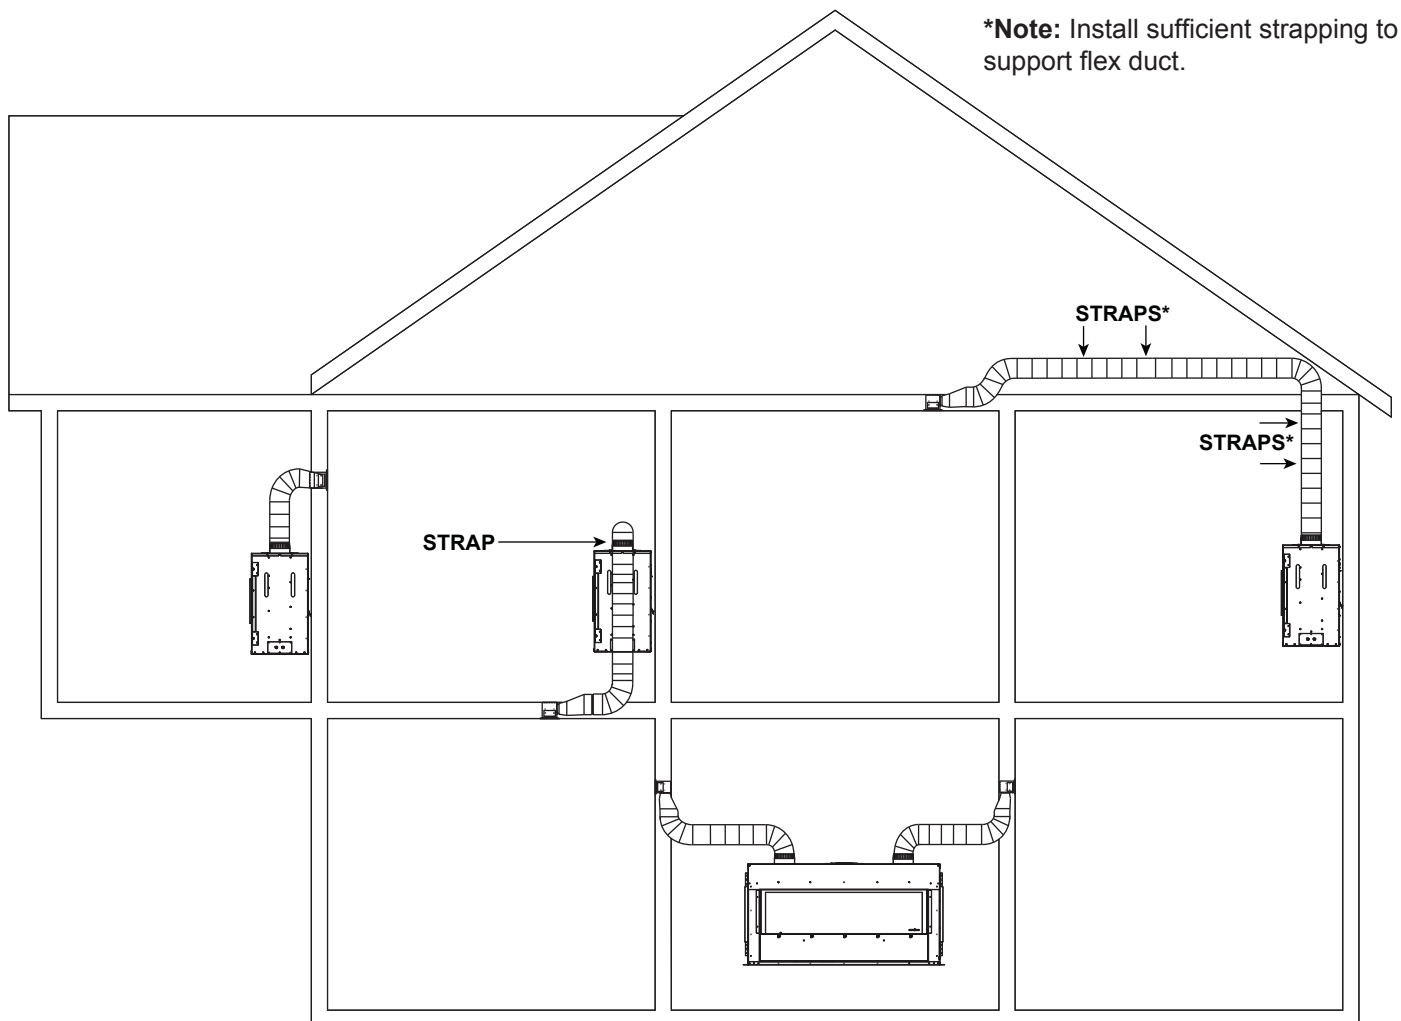

Figure 6.7 HEAT-ZONE-PRIMO Locations
- Mount fan housing in desired location. See Figures 6.7, 6.12 and 6.13.